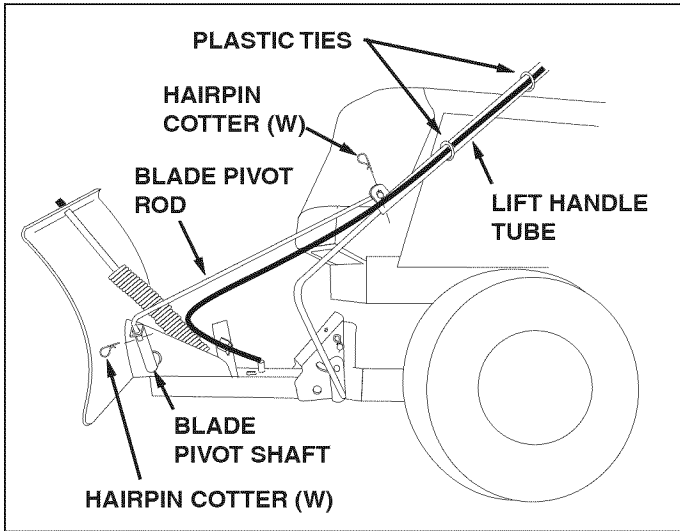

FIGURE 26 (Left Hand Side View)
STEP 12: (SEE FIGURE 26)
- Place the end of the blade pivot rod down through the blade pivot shaft. Attach the other end of the blade pivot rod to the lift handle tube. Secure both ends with a hairpin cotter (W). The holes for the hairpin cotters should be parallel to the ground.
- Remove the hairpin cotter which fastens the blade pivot rod to the blade pivot shaft. See figure 26 on page 13.